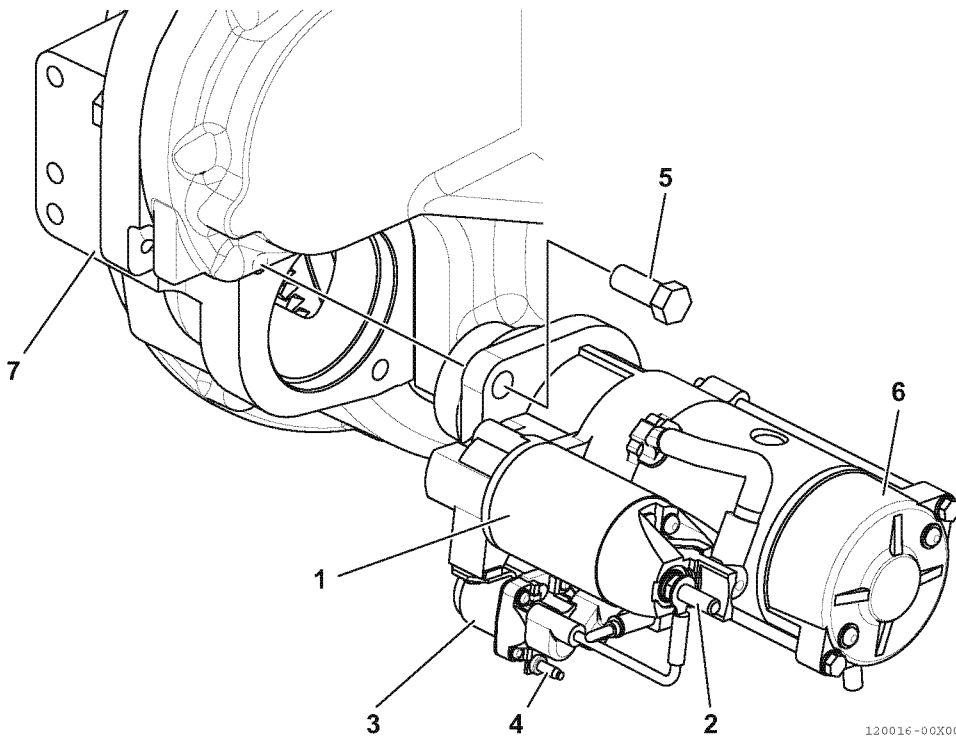

Fig.70-3
2. Remove the cable from the terminal B (2, Fig.70-3) of the magnetic switch assembly (1, Fig.70-3), and remove the cable from the terminal (4, Fig.70-3) of the magnetic switch control relay (3, Fig.70-3).
3. Remove the two starter bolts (5, Fig.70-3), and remove the starter (6, Fig.70-3) from the flywheel housing (7, Fig.70-3).